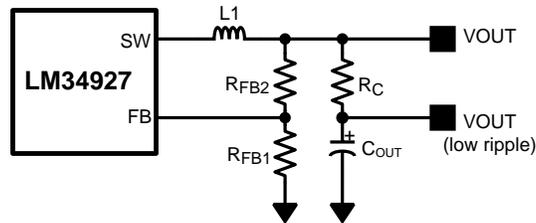

Figure 13. Low Ripple Output Configuration
This regulator regulates the output voltage based on ripple voltage at the feedback input, requiring a minimum amount of ESR for the output capacitor (C_{OUT}). A minimum of 25 mV of ripple voltage at the feedback pin (FB) is required for the LM34927. In cases where the capacitor ESR is too small, additional series resistance may be required (R_C in Figure 13).
For applications where lower output voltage ripple is required the output can be taken directly from a low ESR output capacitor, as shown in Figure 13. However, R_C slightly degrades the load regulation.